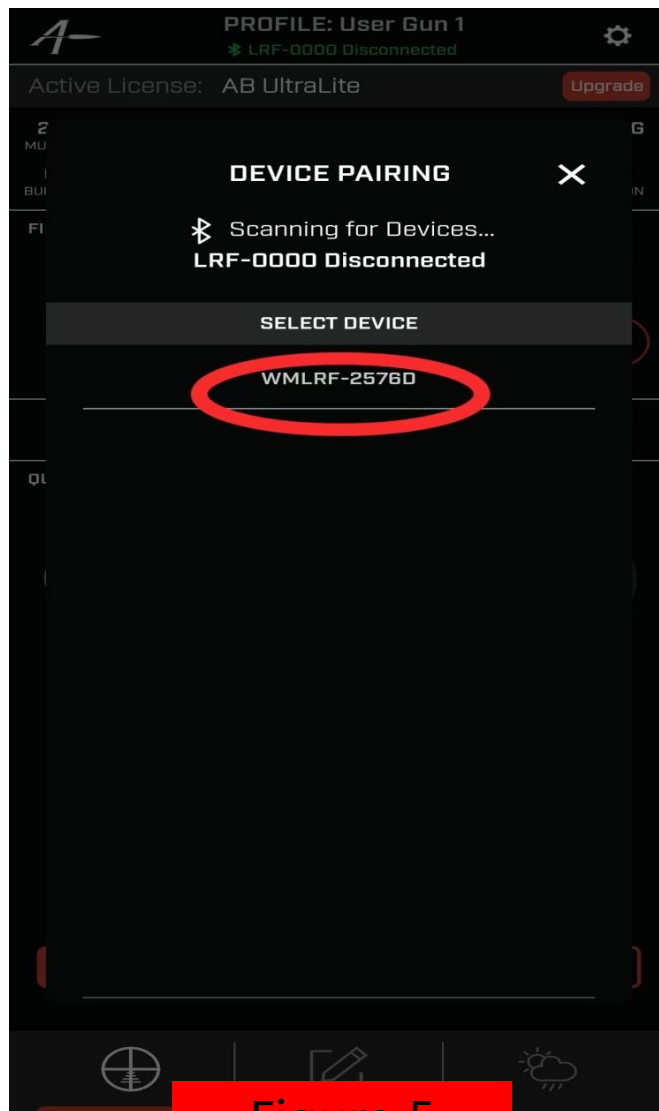

Figure 5
- 4) Click "PAIR DEVICE" to enter the interface as shown in Figure 5